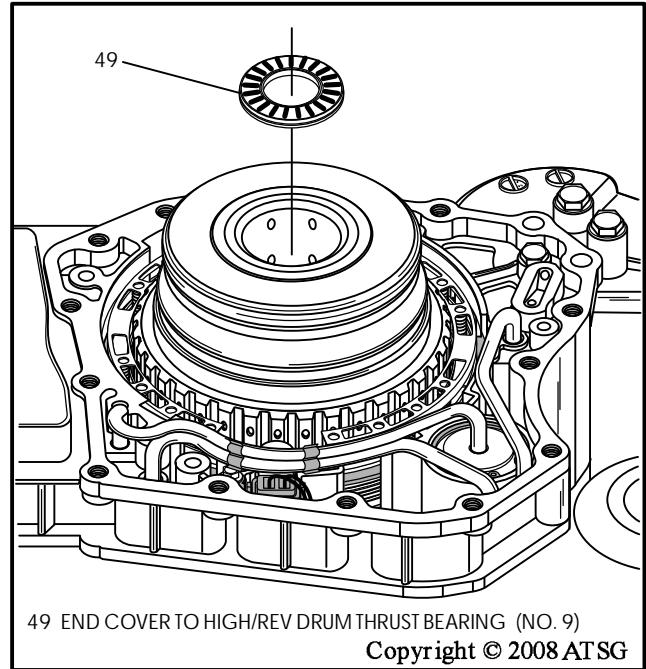

Figure 207
39. Ensure that **only** the number 9 thrust bearing is installed into the high and reverse clutch housing, with the needles facing up, as shown in Figure 207.